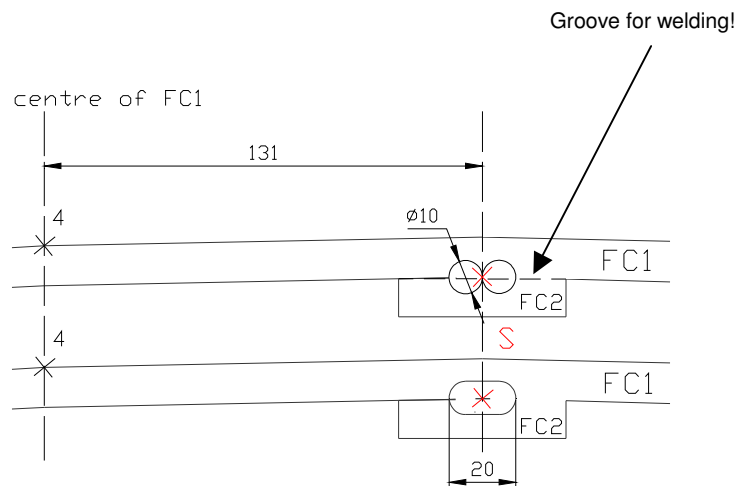

Fig. 37: Marking of Slot
**Step 1** Take FC1, check its straightness and mark its centre(= point 4). Measure 131mm from the centre and mark point S. Remove one edge of FC2 (on both sides of the part) so that a groove is formed for the weld. Weld FC2 to FC1 so that it is centred at point S. See Fig.37